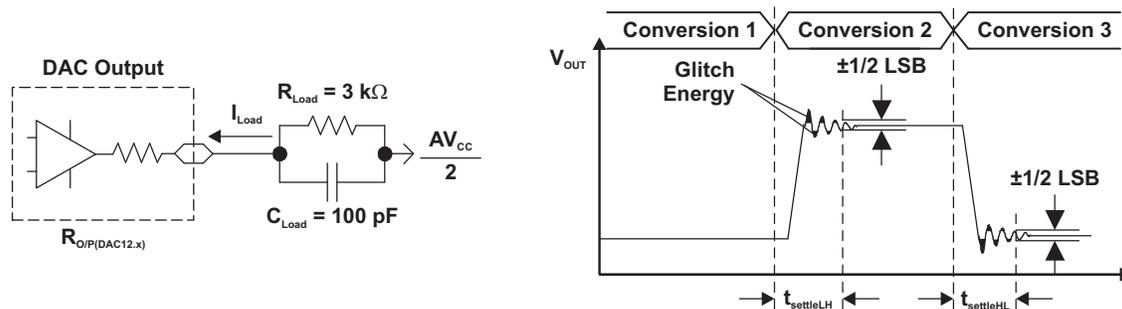
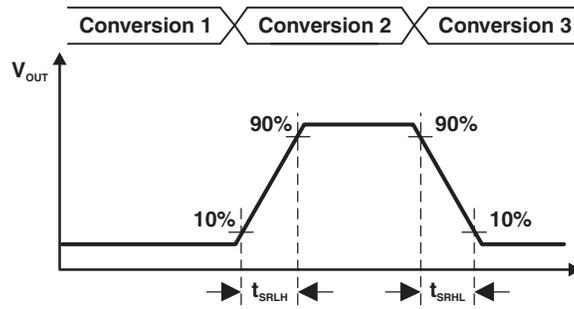

Figure 19. Settling Time and Glitch Energy Testing
Figure 20. Slew Rate Testing
VREF = VCC, DAC12IR = 1 (see Figure 19 and Figure 20), over recommended ranges of supply voltage and operating free-air temperature (unless otherwise noted)
- (1) RLoad and CLoad connected to AVSS (not AVCC/2) in Figure 19.
- (2) Slew rate applies to output voltage steps ≥ 200 mV.